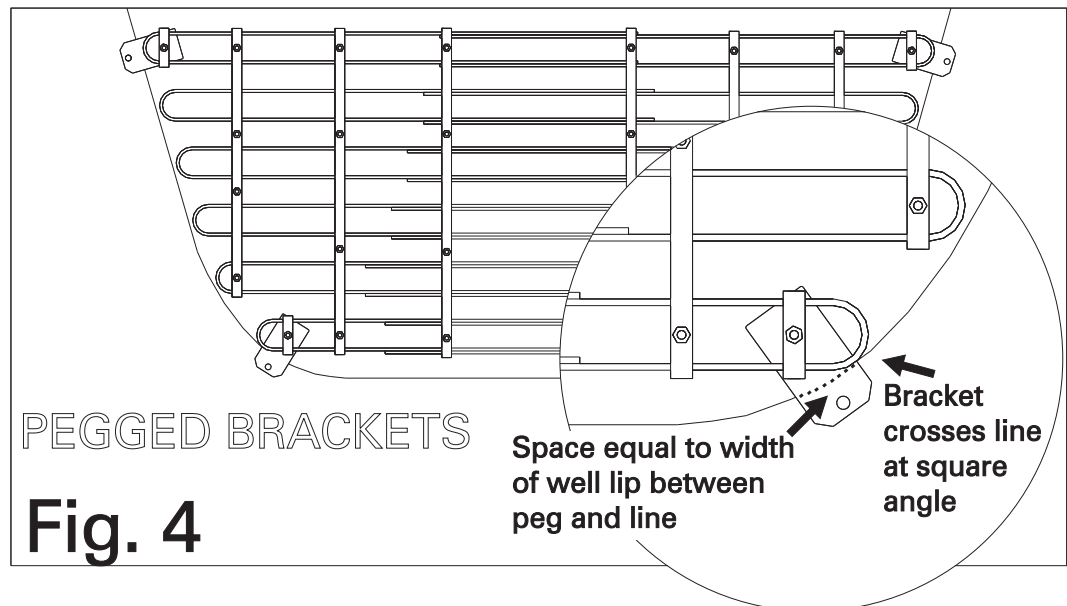

Fig. 4
8. **PEGGED BRACKETS:** Make sure grate is still positioned properly in template. Extend each pegged bracket out across line at 90 degrees (square) angle. A space equal to the width of the lip of the well should be left between the line and the peg on the bracket, then tighten bolt (SEE FIG. 4).